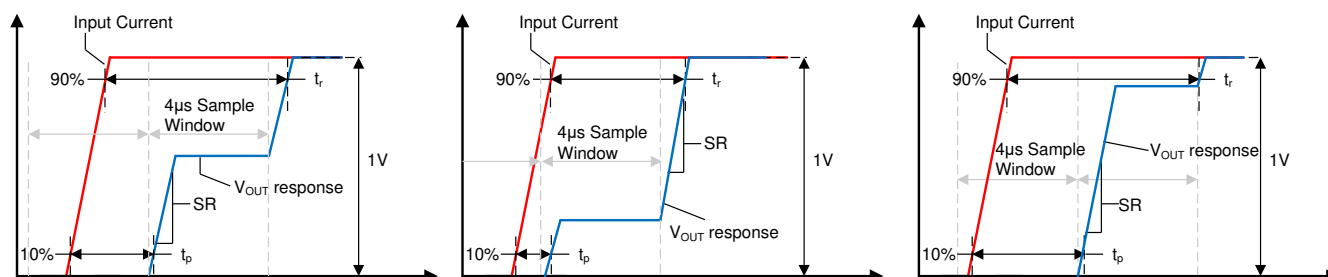

Figure 8-3. Small Current Input Step Transient Response
Slew rate (SR) is defined as the V_{OUT} rate of change for a single integration step's output transition, as shown in Figure 8-3. Because the device often requires two sampling windows to reach a full 90% settling of its final value, this slew rate is not equal to the 10%-90% transition time for the full output swing.
Propagation delay is the time period between the input current waveform reaching 10% of its final value and V_{OUT} reaching 10% of its final value. This propagation delay is heavily dependent upon the alignment of the input current step and the sampling period of the TMCS1100-Q1, as shown for several different sampling window cases in Figure 8-3.
Response time is the time period between the input current reaching 90% of its final value and the output reaching 90% of its final value, for an input current step sufficient to cause a 1-V transition on the output. Figure 8-3 shows the response time of the TMCS1100-Q1 under three different time cases. Unless a step input occurs directly during the beginning of one sampling window the response time will include two sampling intervals.